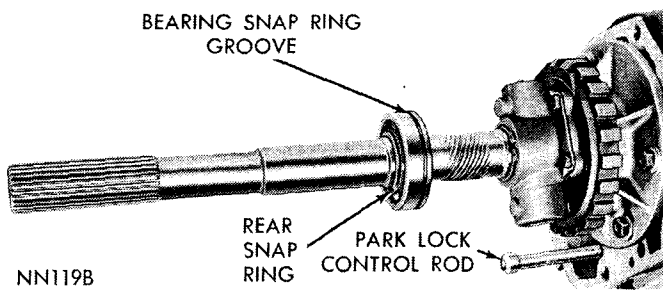

Fig. 25—Output Shaft Bearing
(1) Using heavy duty snap ring pliers remove output shaft bearing rear snap ring and remove bearing from the shaft (Fig. 25).
(2) Install a new bearing on shaft with outer race
ring groove toward front (Fig. 25), then install rear snap ring. A727 has a snap ring in front of bearing.